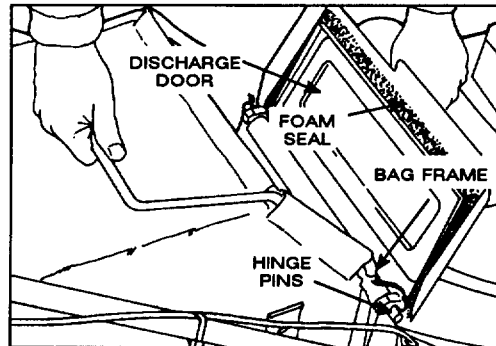

Figure 9
2. **INSTALLING BAG**—Raise discharge door and hook bag frame onto hinge pins (Fig. 9). Allow bag to rest on mower housing over discharge opening. Close door and make sure it seals around top of bag opening.